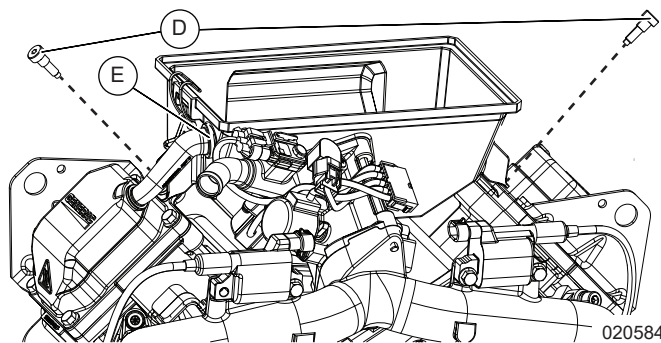

Figure 12-25. Install Air Box Bolts and Breather
3. See Figure 12-25. Install bolts (D) through holes and grommets on tappet cover mounts.